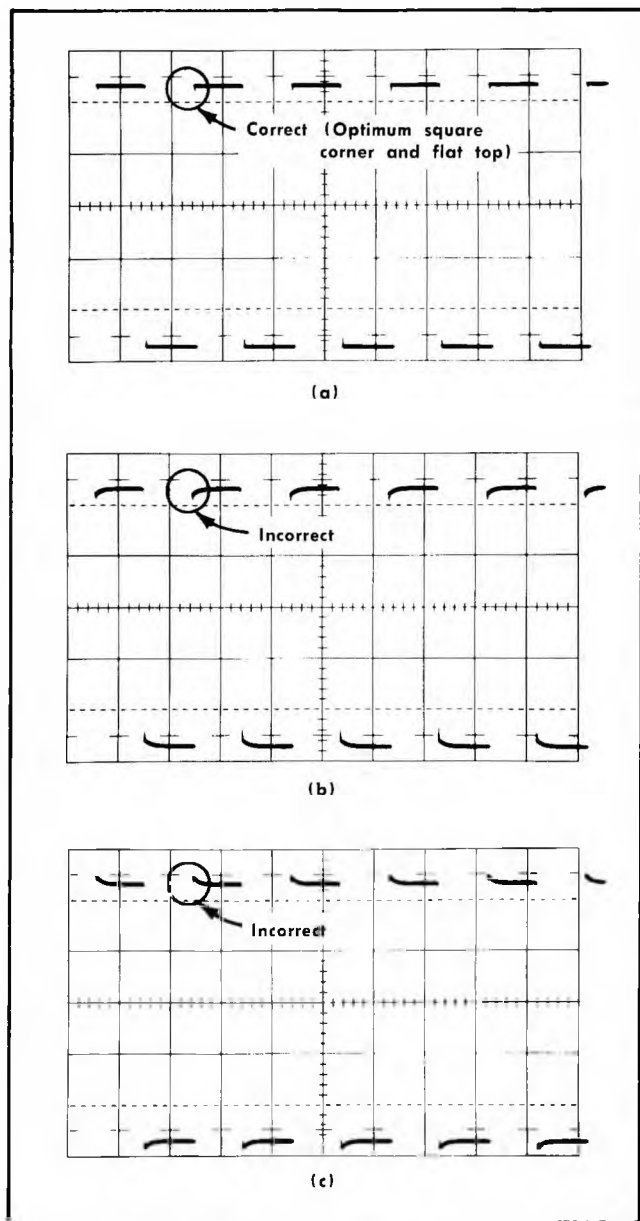

Fig. 5-5. (a) Typical crt display showing correct input attenuator compensation. (b) and (c) show incorrect compensation.
- b. Apply a 100-V square-wave signal from the oscilloscope calibrator through a coaxial cable and a 47-pF input RC standardizer (item 7) to the +INPUT connector. Connect all items in the order given.
- c. Check—Top of square wave for minimum rolloff, overshoot or tilt (see Fig. 5-5). Repeat check at each VOLTS/CM switch position from 5 VOLTS through 10 mVOLTS. Set the oscilloscope calibrator for proper output to maintain a 4- or 5-cm display amplitude.